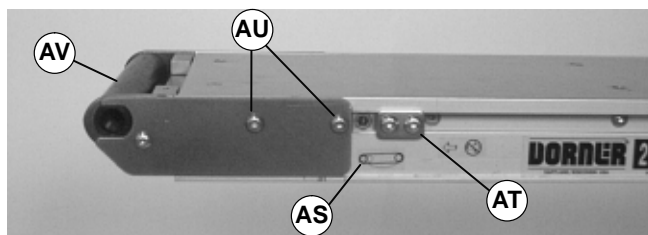

Figure 16
6. Remove tension door screws (AP) on each side of the center drive module.
7. Using finger grip holes (AQ), open the tension door (AR) to release conveyor belt tension.
8. On tension end of the conveyor, identified with  label (AS of Figure 16), loosen tracking cam assemblies (AT) and cover plate screws (AU) on both sides of the conveyor.
- Using finger grip holes (AQ), open the tension door (AR) to release conveyor belt tension.
- On tension end of the conveyor, identified with  label (AS of Figure 16), loosen tracking cam assemblies (AT) and cover plate screws (AU) on both sides of the conveyor.
- Slide the cam assemblies toward the center of the conveyor and push the end (AV) into the conveyor frame.